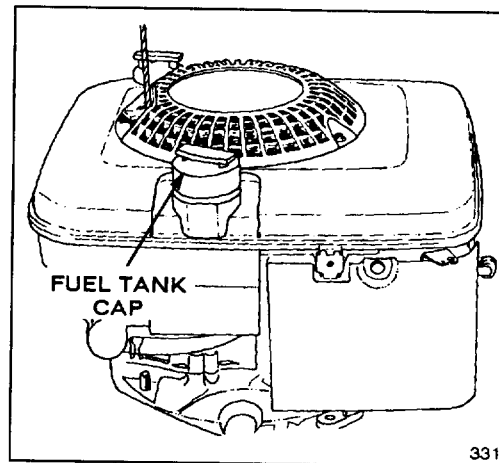

Figure 7
1. Clean around fuel tank cap and remove cap from tank (Fig. 7). Using unleaded gasoline, fill fuel tank to within 1/4 to 1/2 inch (6 to 13 mm) from top of tank, not into filler neck. Do not fill tank full.